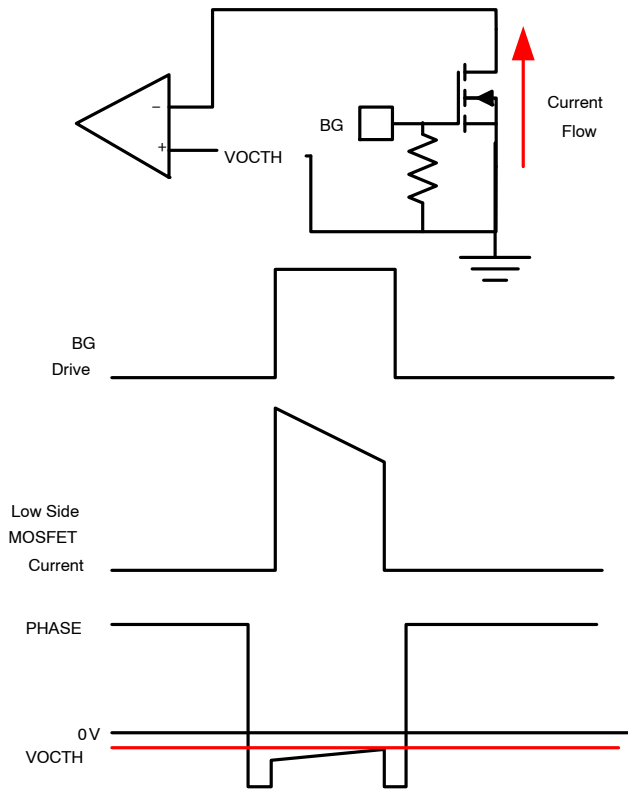

Figure 20. Current Limit Trip
In case of an overload, the low-side (LS) FET will conduct large currents. The regulator will latch off, protecting the load and MOSFETs from excessive heat and damage. Low-side  $R_{DS(on)}$  sense is implemented at the end of each LS-FET turn-on duration to sense the current. While the low side MOSFET is on, the  $V_{SW}$  voltage is compared to the user set internally generated OCP trip voltage. If the  $V_{SW}$  voltage is lower than OCP trip voltage, an overcurrent condition occurs and a counter counts consecutive current trips. If the counter reaches 7, the PWM logic and both HS-FET and LS-FET are turned off. The regulator has to go through a Power On Reset (POR) cycle to reset the OCP fault as shown in Figure 20.